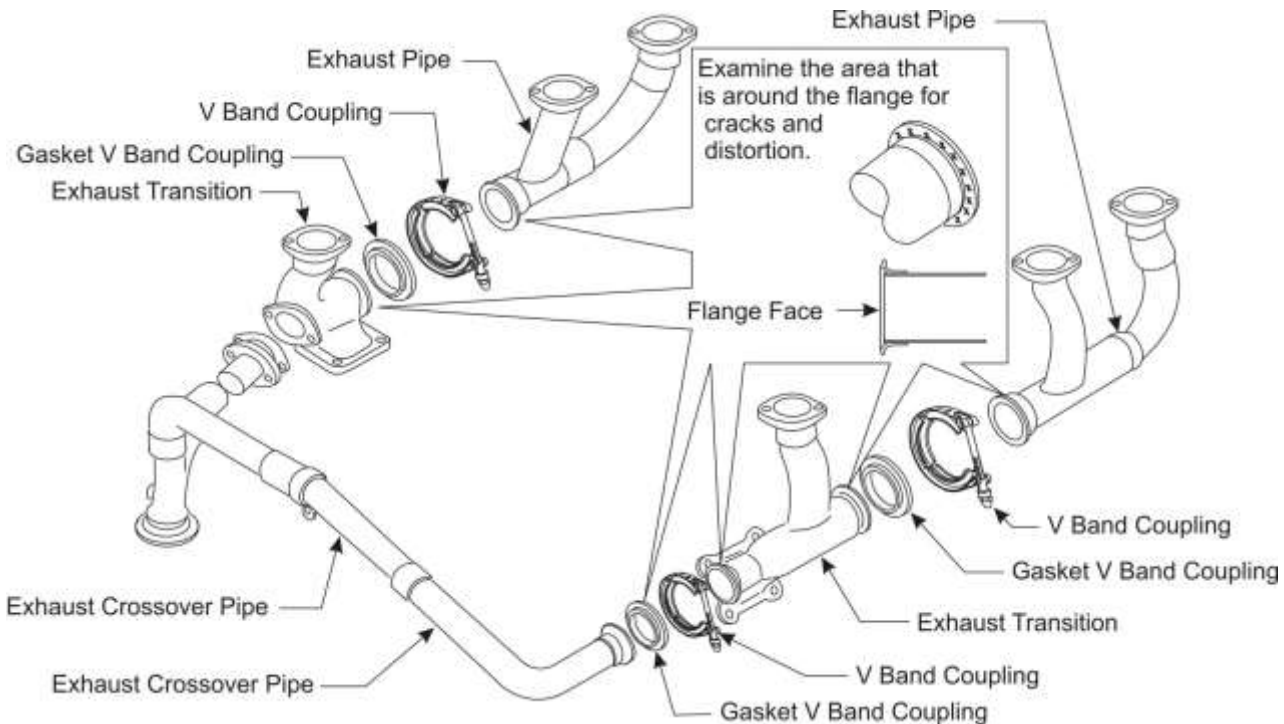

Figure 6
- H. Examine the flange face and the area inside the flange mouth at the end of the exhaust pipe for cracks and distortion (Figure 6).